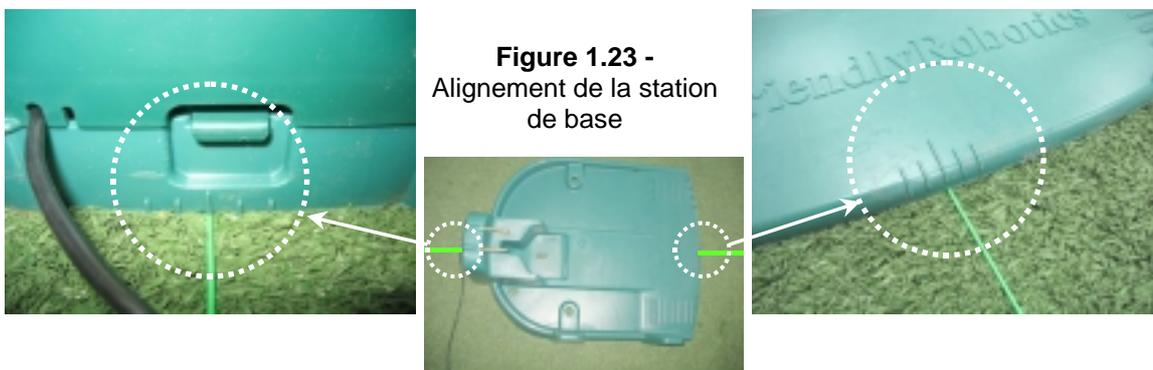

Figure 1.23 -
- Aligned the charging station on the peripheral cable so that the cable is aligned with the two central lines marked at the front and back of the charging station, as indicated in Figure 1.23. Do not yet push the charging station, you will have to verify its final position first.